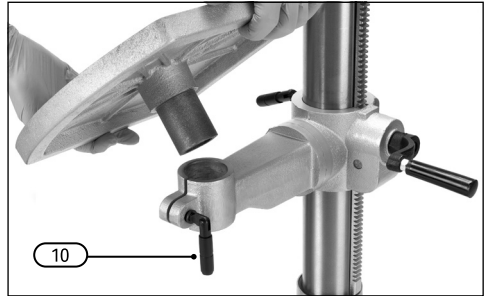

Fig. 4
- Lock the column (19) to the column base (26) with the grub screws (26a).
6.2 Assembling the Table (Fig.4)